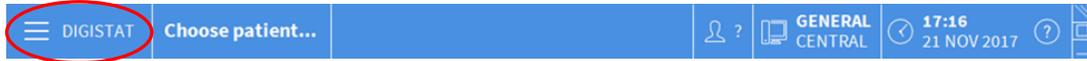

Fig 39
- Click the **Menu** button on the control bar (Fig 39)